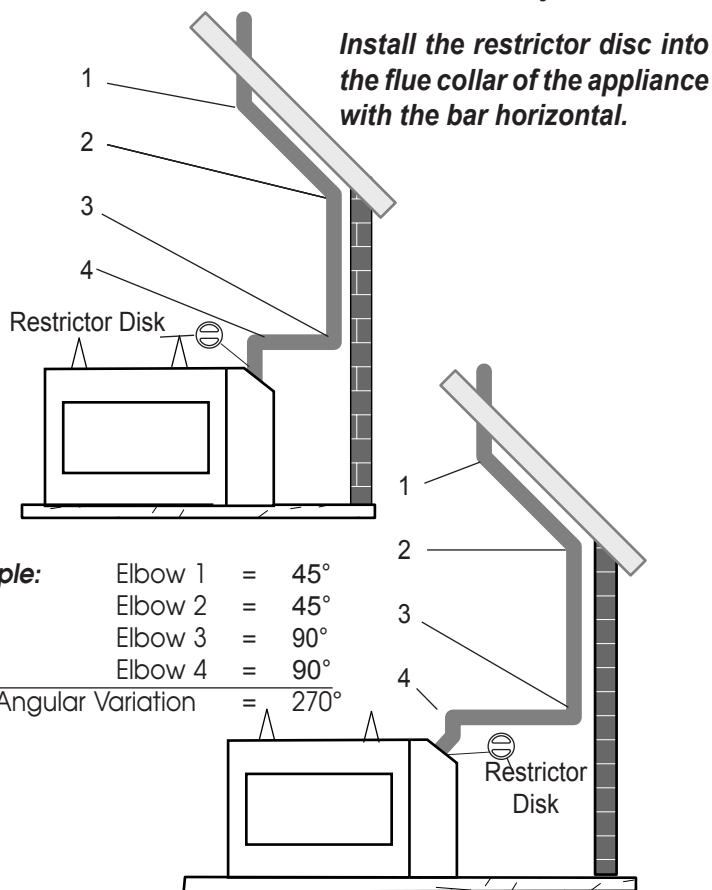

Figure 26 - Maximum Elbow Usage
- Two sets of 45°elbows offsets may be used within the vertical sections. From 0 to a maximum of 8' (2.5 m) of vent pipe can be used between elbows. See Figure 26.
- The maximum angular variation allowed in the system is 270°. See Figure 26.